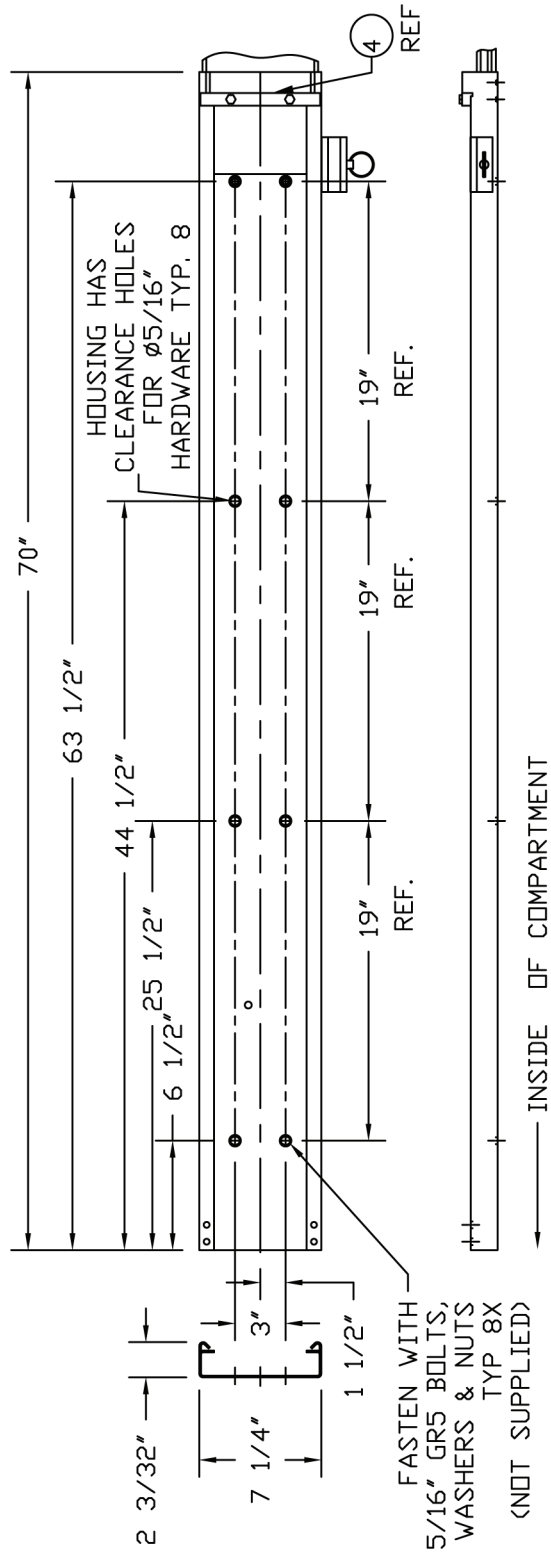

Figure 2
1. Position the QR-SOFD-2 in the apparatus. Check for fit and function by using the Handle (12) to pull the Main Slider (2) out. Allow for the Slider to fold down. Check for any interference with the apparatus.
2. Keeping the unit in the extended and folded down position, mark and drill the hole mounting locations shown in Figure 2.
3. Mount the Stationary Housing (1) to the Apparatus using 8 sets of GR5 5/16 bolts, washers and nuts (not supplied).